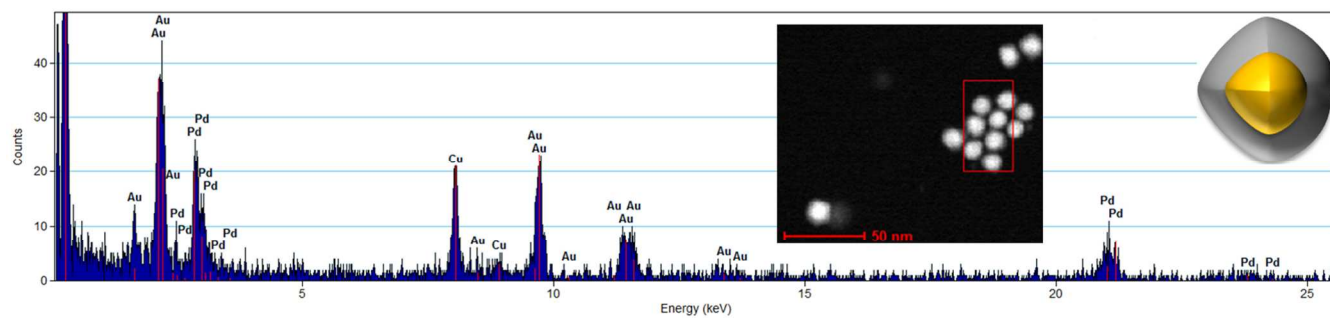

Figure S4. STEM image along with EDX spectrum of boxed ODT-Au@Pd NPs.
- **Figure S4:** EDX of ODT-Au@Pd NPs.